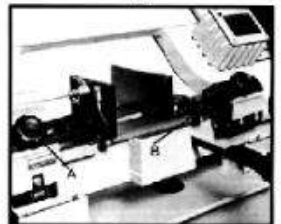

Fig.6
2. Loosen knob (A, Fig. 6) and bolt (B). Slide blade guide assemblies as close as possible to the material without touching with the cut.
3. Tighten knob (A) and bolt (B) and connect machine to the power source.